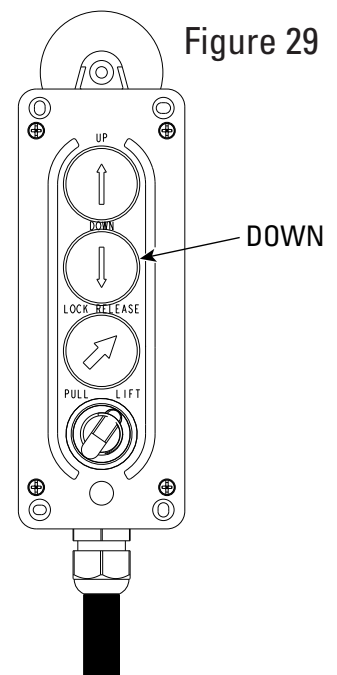

Figure 29
6. Depress and hold the "DOWN" button on the hand-held pendant. The machine will automatically tilt into the loading position, Figure 29.